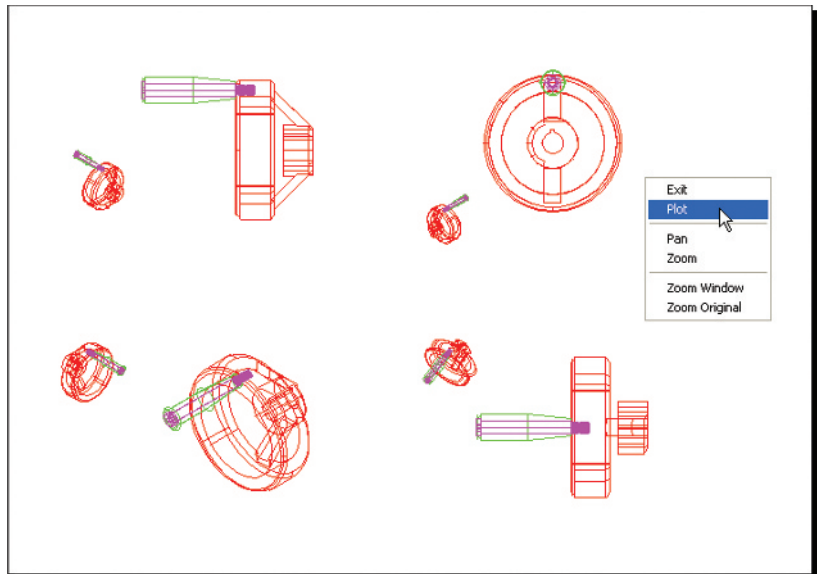

Fig. 19.12 Polygonal viewports – plot preview after turning the layer Yellow off
14. Click the **Plot** icon. Make plot settings in the **Plot** dialog. Click on the **Preview** button of the **Plot** dialog. The **Preview** appears (Fig. 19.12). If satisfied with the preview, *right-click* and in the menu which appears *click Plot*. The drawing plots.